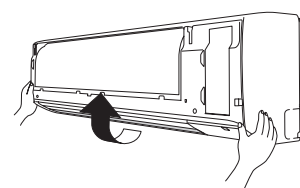

Fig. 2-245
- (6) Lift up the grille in the direction shown by the arrow and pull the grille towards you to remove it. (Fig. 2-245)